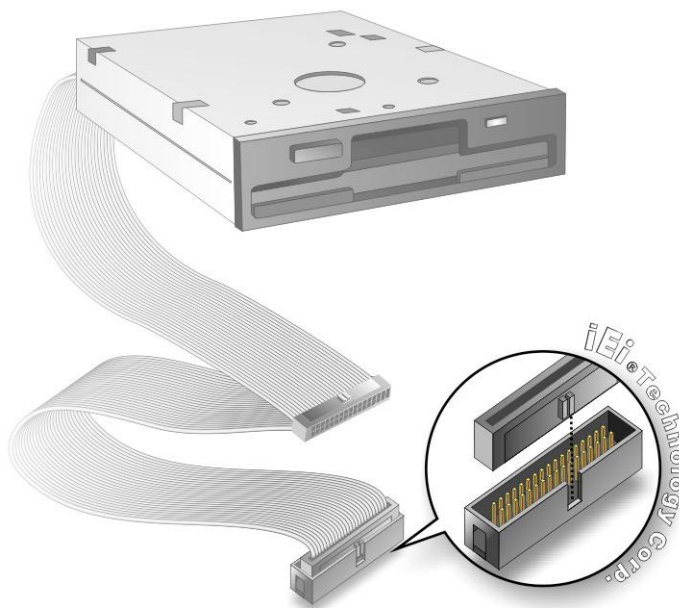

Figure 5-15: FDD Cable Connection
Step 2: Insert the connector. Connect the FDD cable connector to the on-board connector. See **Figure 5-15**. A key on the front of the cable connector ensures it can only be inserted in one direction.